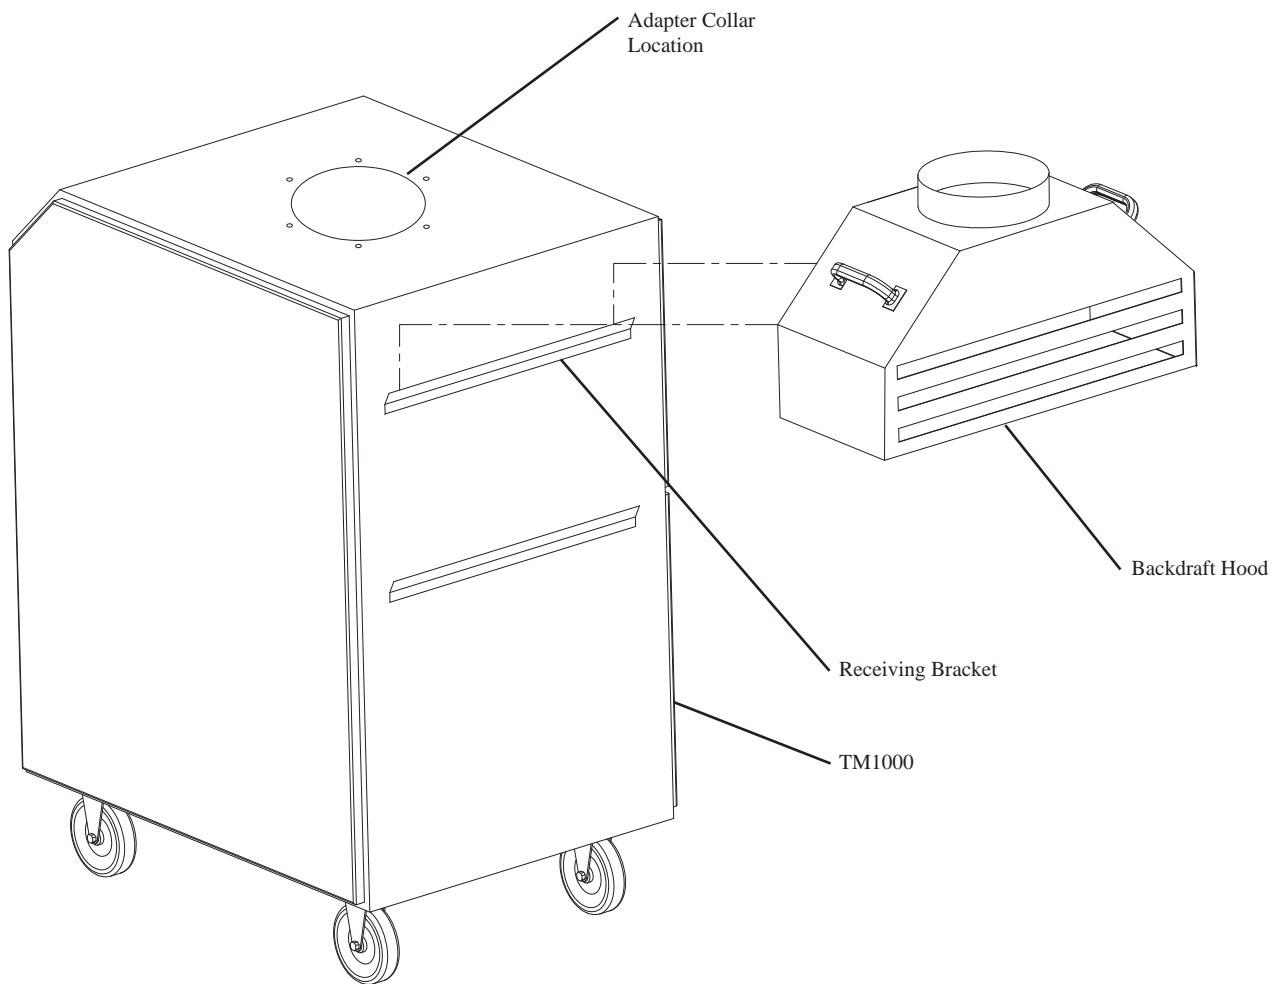

Fig. 4
1. Lift and slide the Backdraft Hood into the upper receiving bracket (Fig. 4).